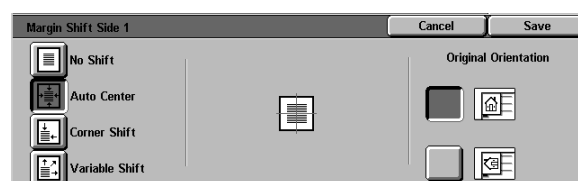

Figure 20: Margin Shift screen with Auto Center selected
- 3 Touch the **Auto Center** icon to display the Auto Center detail screen, as illustrated in Figure 20.